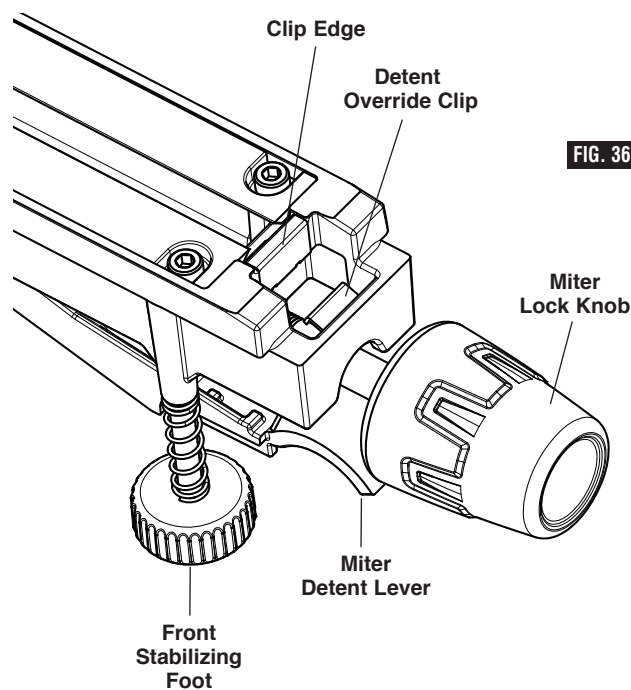

FIG. 36
2. Push the detent override clip forward and latch in place over clip edge. Release miter detent lever (figure 36).
The front stabilizing foot is located at the front of the saw's table near the detent override (figure 36) this foot provides additional support and stability when making slide cuts. To adjust the foot to the work surface follow these steps: